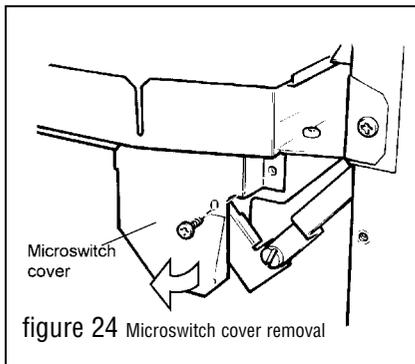

figure 24 Microswitch cover removal
- 10.1 To remove the ignition microswitch (Figures 24 & 25)** The ignition microswitch is stamped V4NT9C4YC
- 10.1.2** Detach the microswitch cover by removing one screw and pulling clear of the location lug (see figure 24).
- 10.2 To remove the gas shut-off microswitch (Figures 24, 25 & 26)**
- 10.2.2** Detach the microswitch cover by removing one screw and pulling clear of the location lug (see figure 24).